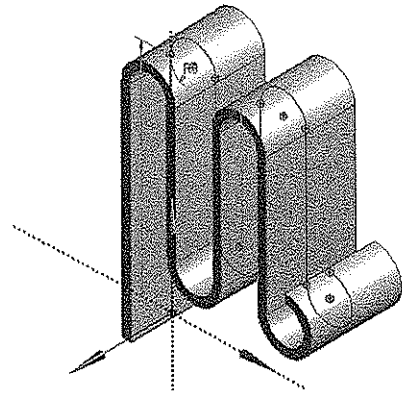

Figure 3-79 The generated feature
- 11. After specifying all the parameters in the **Details View** window, choose the **Generate** tool from the **Features** toolbar; the geometry is extruded, as shown in Figure 3-79.